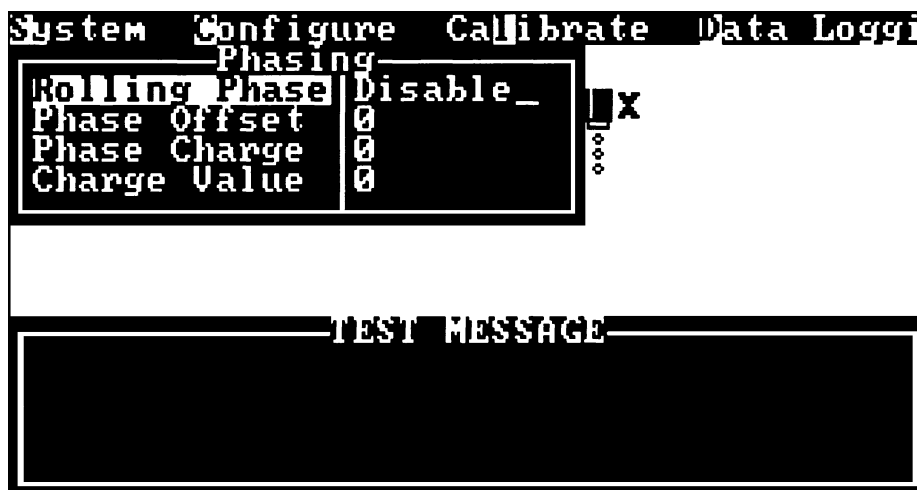

Fig 11.96 Phasing dialogue box
- 205** When the Phase ☒ Offset Set option is selected the Phasing dialogue box (Fig 11.96) is displayed, the Phase offset (Si & Mi = 9, Pi = 12) can then be set to a value between 0 and 15.